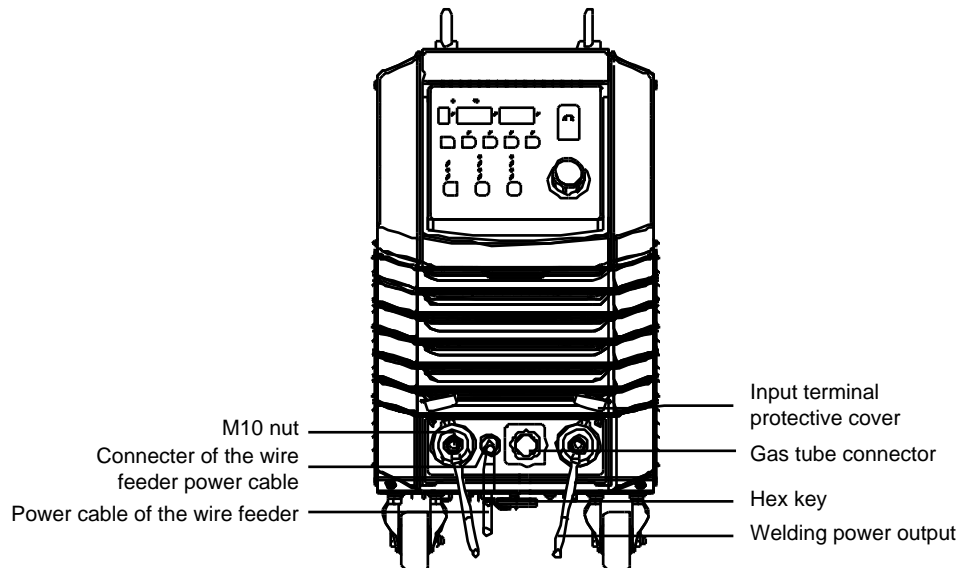

Figure 2-2 Schematic diagram of connecting the positive and negative output terminals with the welding power cables of the wire feeder and workpiece
1. Remove the protective cover of the output terminals. (See Figure 2-2.)
2. Take out the hex key from the bottom of the welder. See Figure 2-2.